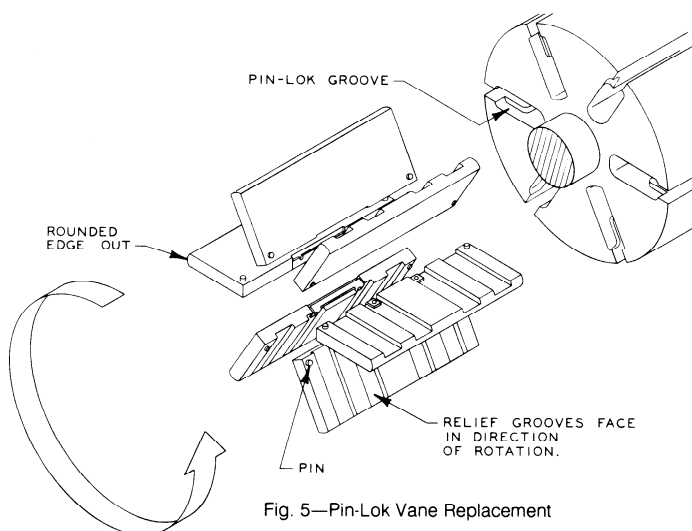

Fig. 5—Pin-Lok Vane Replacement
To rebuild a pump from right-hand to left-hand, or vice versa, it is necessary that the vanes be reversed in the rotor slots so that the pressure-relief grooves in the vane face in the direction of rotation (see Fig. 5). On 10 inch pumps it is also necessary to reverse the liner. Cavitation suppression built into the porting (partially closed ports) must always be on the discharge side of the pump.
3. Install three push rods and three vanes into the bottom of the rotor. The rounded edge of the vane should face outward away from the shaft, and the vane relief grooves should face the direction of rotation when installed. See Fig. 5. This rotor assembly should then be set on a block, which serves as a shim when set inside the liner. Ideally, this wooden shim will hold the rotor up against the top of the pump liner during assembly.
4. With a hoist, place the disc on the head with the counter-bored screw holes face out. The word "INTAKE" on the disc should point towards the intake side of the pump when the head is attached to the casing. Note, the head drainhole should be at the bottom of the pump when properly installed. Install the six (6) lockwashers and set screws to hold the disc in place.